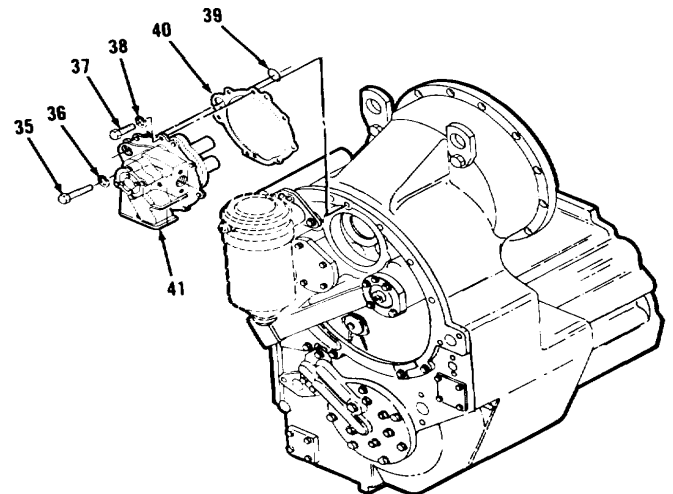

Figure 5-59.
2. Install oil pump (41), new gasket (40), new preformed packing (39), five lockwashers (38), bolts (37), two lockwashers (36) and bolts (35, Figure 5-59).